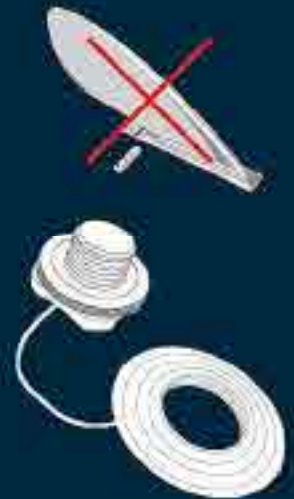

Figure 1.
- For compact storage your kayak should be as flat as possible. Once flattened, fold the kayak in half and roll tightly from the nose down. **Figure 1**